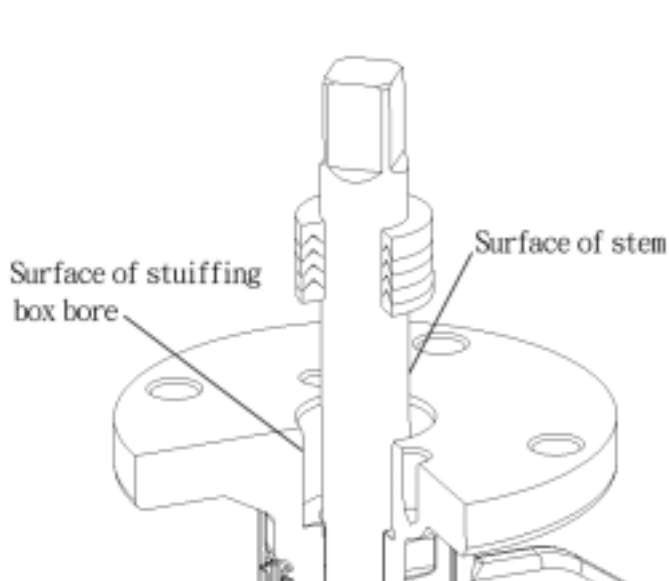
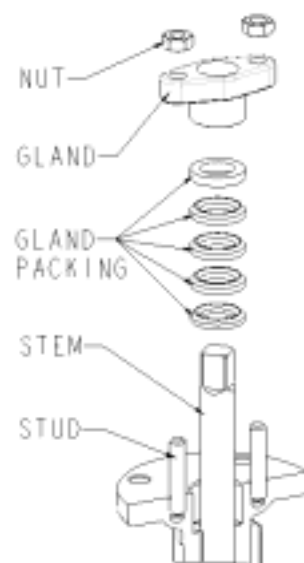

Fig. 8
Fig. 9
3. Insertion of the gland packing is; first place the base of the packing and then V-shaped packing one by one as shown in the Fig 8 and Fig. 9.